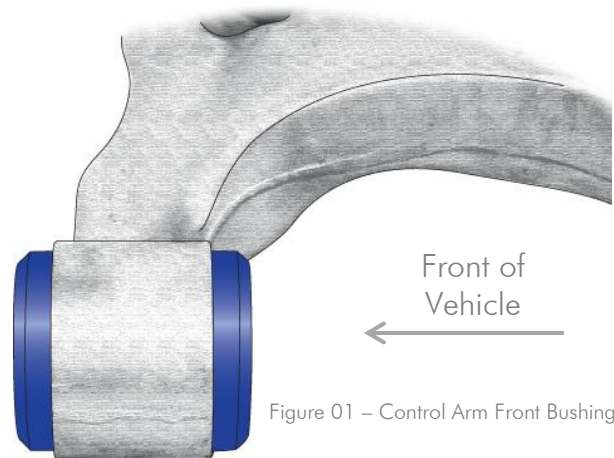
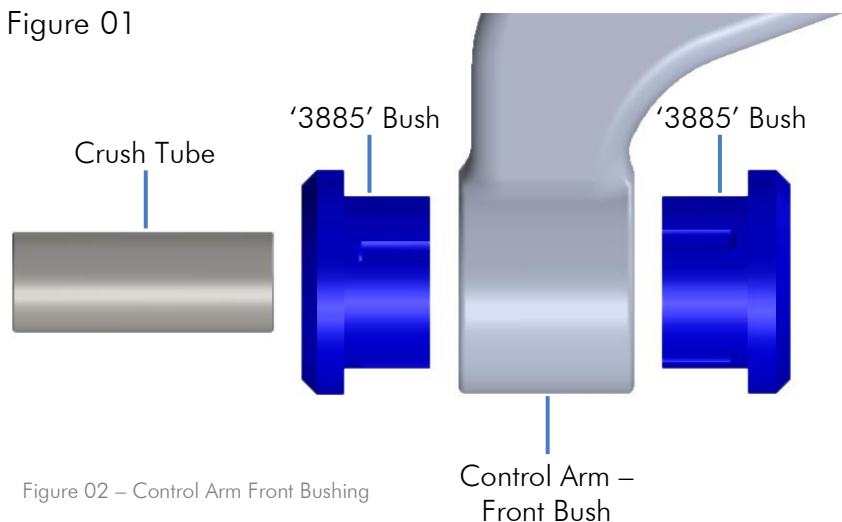

Figure 01 – Control Arm Front Bushing
Figure 02 – Control Arm Front Bushing
- Install the new '3885' bushes into the front bush housing as shown in Figure 01 and Figure 02;
- Using the grease supplied, liberally apply it to the polyurethane bore of the bush, the outside of the steel crush tube, and then push the tube into the bush, Figure 02;